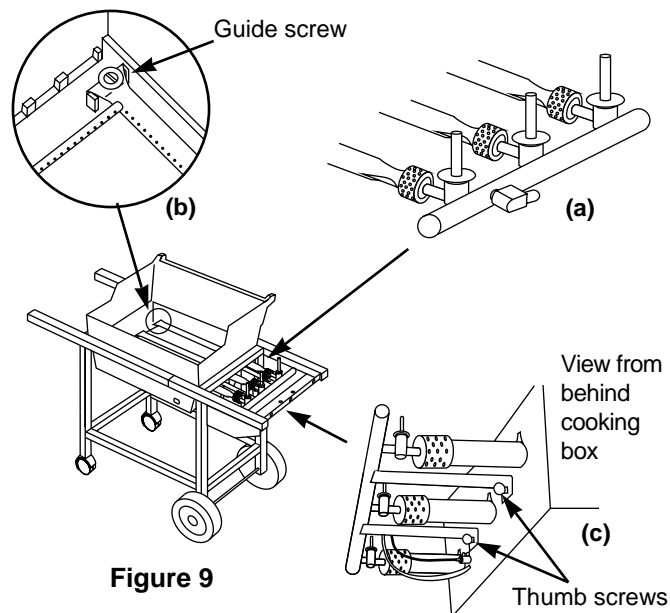

Figure 9
- Do the valves fit into the ends of the burners? Figure 9 (a).
- Are the ends of the burners under the washers at the left rear and left front of the cooking box? The screws are only guides. Do not tighten. Figure 9 (b).
- Are the thumb screws under the burner assembly hand tight? Do not tighten with pliers. Figure 9 (c).